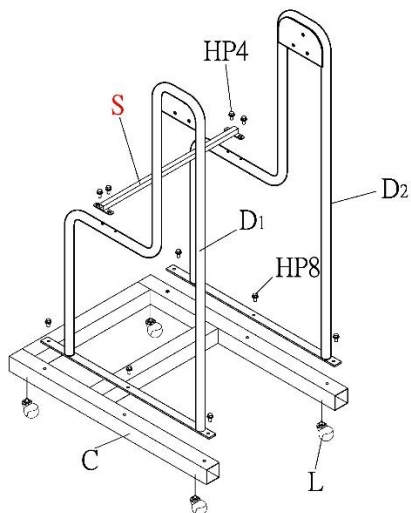

Figure 3
1. Install four casters (L) to base (C). See Figure 3.
2. Install left and right stands (D1,D2) to base (C) with flange head screws (HP4).
3. Install stand support (S) to base (C) with flange head screws (HP8).